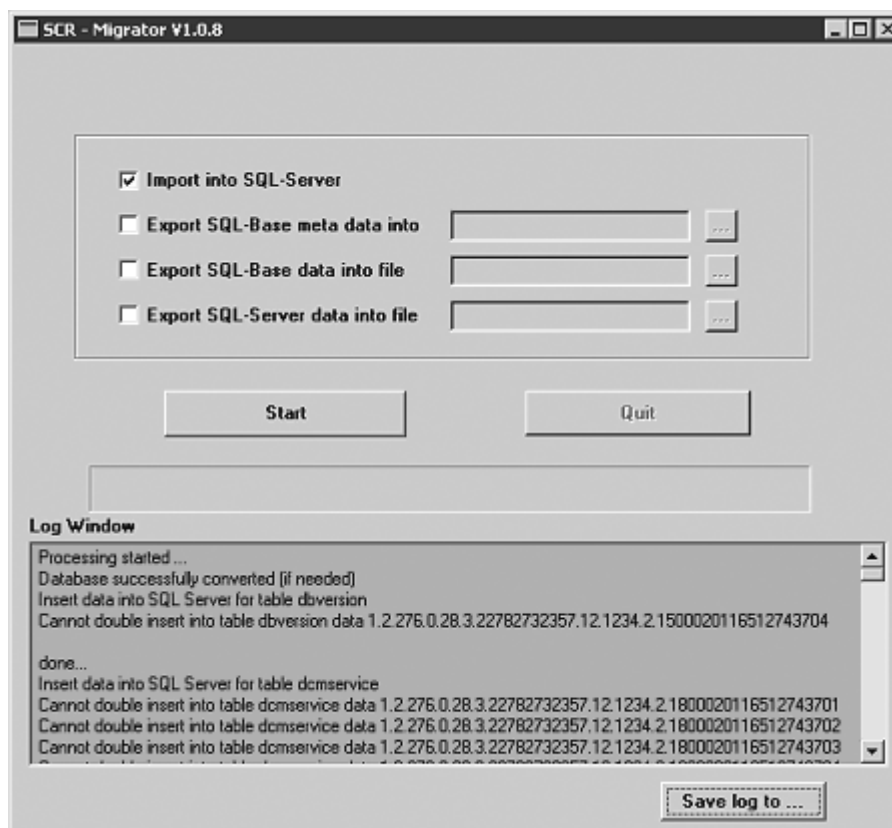

Fig. 26 User Interface
9. The Migrator displays messages "Cannot double insert into table...." (see Fig. 26) many times for data that were not deleted.
21. The Migrator displays messages "Cannot double insert into table...." (see Fig. 26) many times for data that were not deleted.